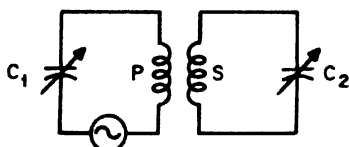

Fig. 34-21. One method of coupling one tuned circuit to another.
**Coupled Circuits.** In radio work, one tuned circuit is often coupled to another, as in Figure 34-21. The over-all frequency characteristic—that is, the relationship between frequency and current flowing in the secondary for a given voltage across the primary—can be shown by a graph like that in Figure 34-11. If each circuit is independently tuned to the same frequency and then